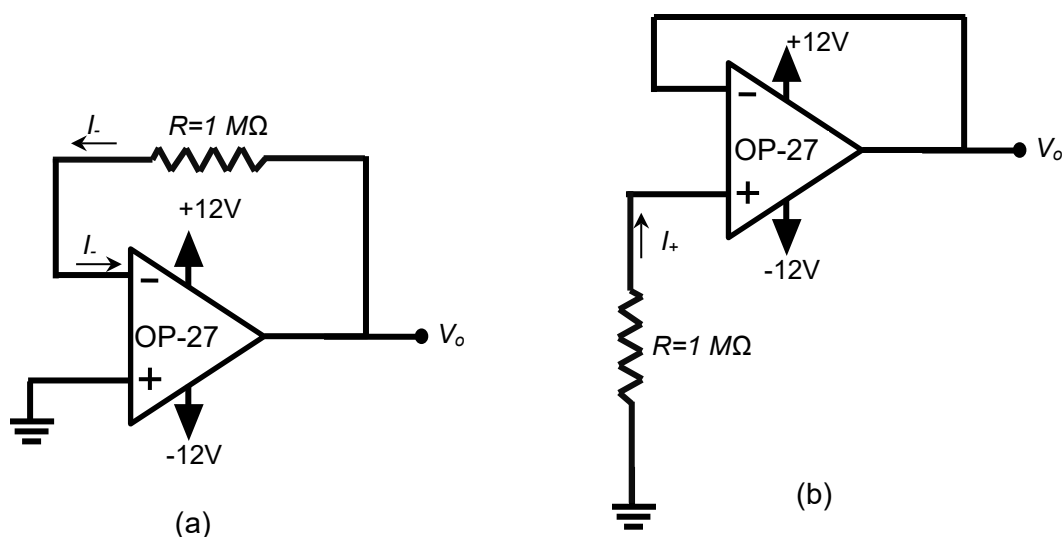

Figure 5. (a) The circuit used to estimate I_- . (b) The circuit used to estimate I_+ .
To evaluate I_B and I_{OS} , I_+ and I_- must be measured. These currents are usually too small to be measured directly in the lab, so testing circuits will be used to measure them. The circuit in Figure 5(a) is used to measure I_- and the circuit in Figure 5(b) is used to measure I_+ .
- For the circuit in figure 5(a) and 5(b) show that the output voltage is given as
1. Refer to the circuit in Figure 5(a). Record the resistance value for R , and then connect the circuit as in Figure 5(a). Measure the output voltage using the DMM.
4. Refer to the circuit in Figure 5(b). Move the resistor R to the non-inverting input and then connect the circuit as shown. Measure the output voltage using the DMM.
6. Estimate the input bias current I_B and input offset current I_{OS} according to equations (16) and (17), and compare your results to the datasheet values.